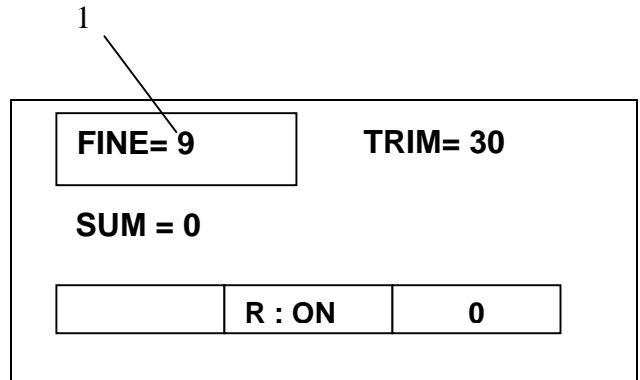

Fig. 21
- In the submenu "Mode" select the function "Interval" (fig. 21) via the knob (fig. 30.1)